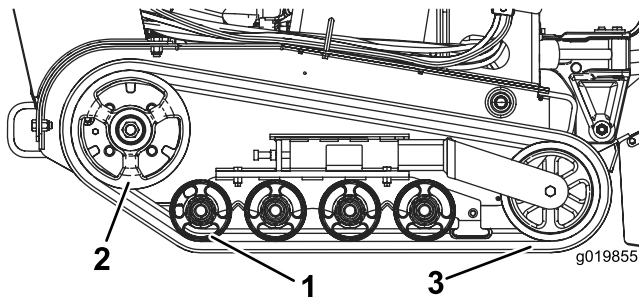

**Figure 46**
**Important:** Ensure that you fully clean the wheels and the drive sprocket (Figure 46).
8. Beginning at the drive sprocket, coil the new track around the sprocket, ensuring that the lugs on the inside of the track fit between the spacers on the sprocket (Figure 46).
9. Push the track under and between the rear and center road wheels (Figure 46).